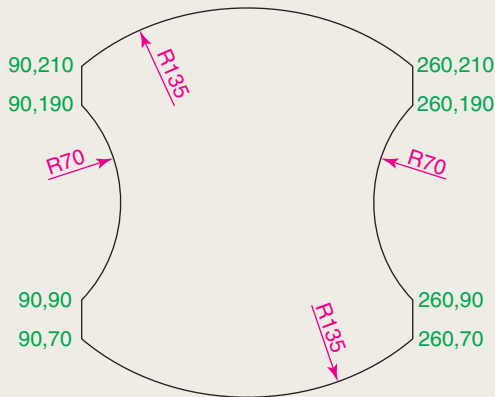

Fig. 3.46 Exercise 2
- With the **Line** and **Arc** tools, construct the outline Fig. 3.46.